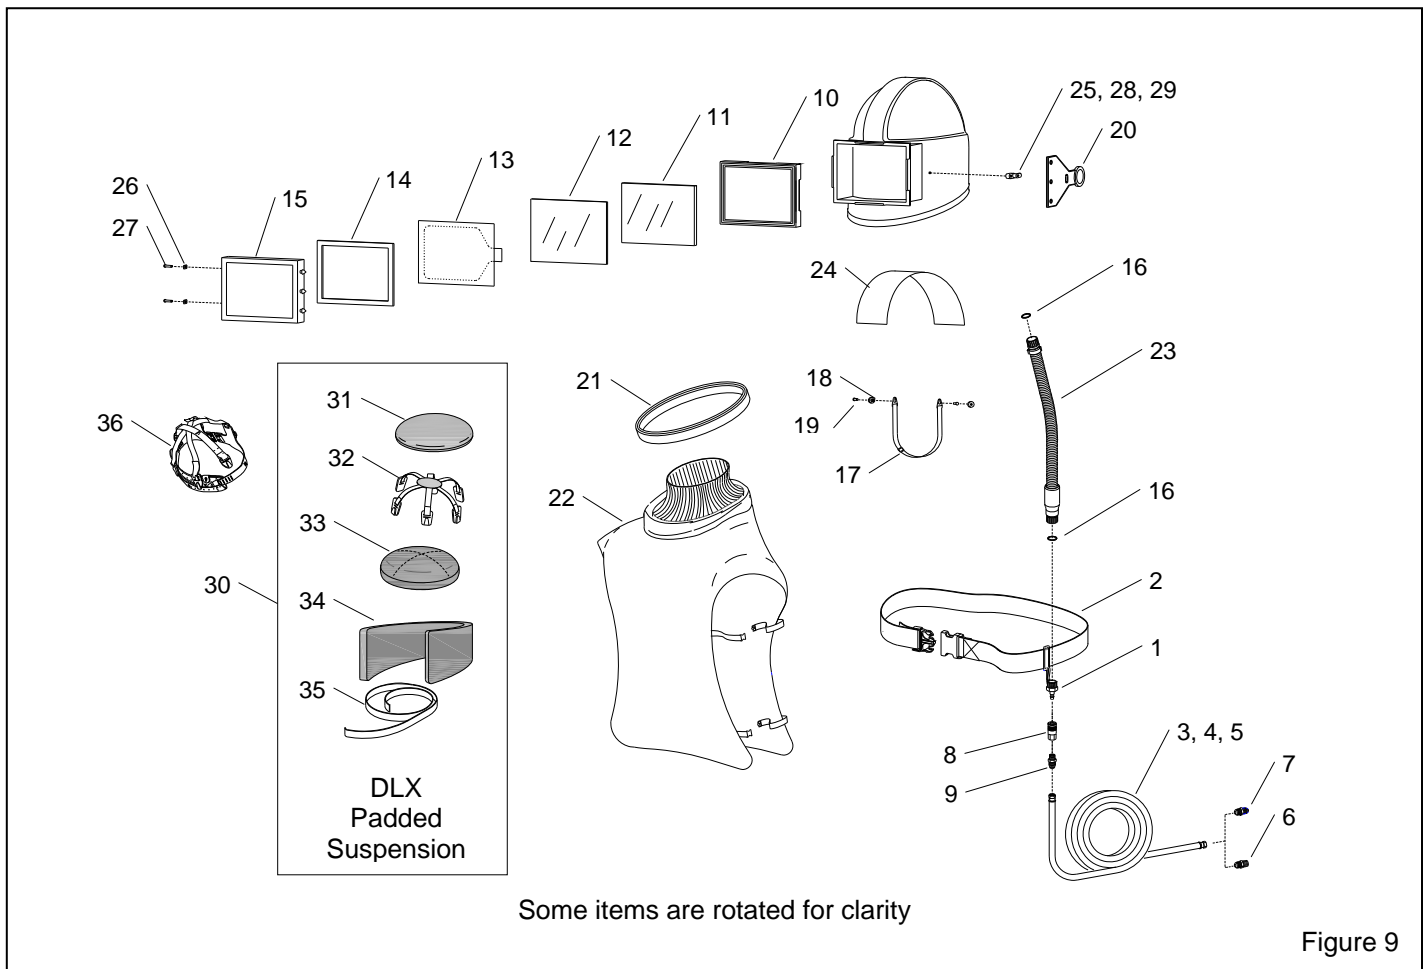

Figure 9
9.6.1.3 To remove the top pad, hold the air baffle partition (Figure 9, item 24) in place, and pull the pad to separate it from the partition.
10.4 Respirator Replacement Parts, Figure 9